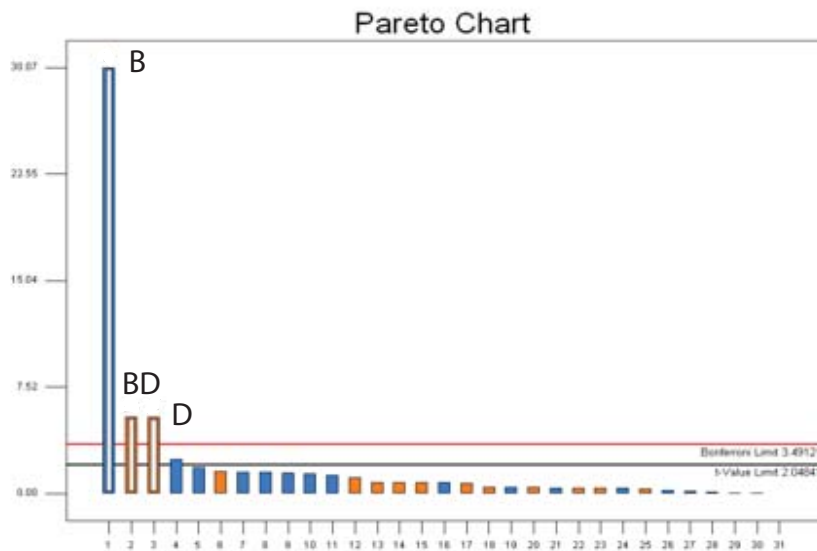

Figure 1: Pareto chart shows the impact of each factor
The Pareto chart shown in Figure 1 shows how much of the variability in the response can be attributed to each of the factors. The results show that the vast majority of the variability results from varying the extruder barrel temperature (B) and a lesser amount is due to the injection speed (D) and the